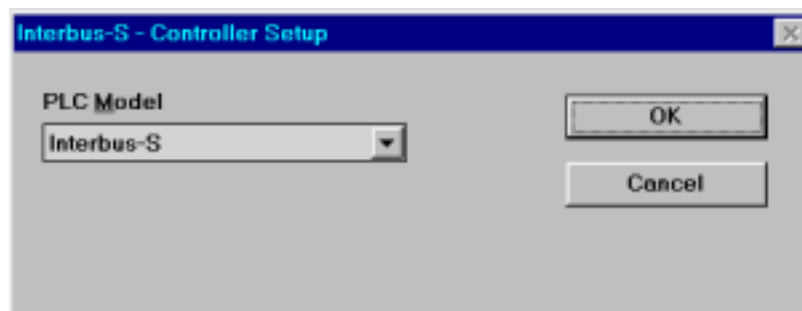

Figure 9 – Controller Setup
- 1) Select the option "Project/Change Communication Driver" and choose "Interbus-S". There is no need to enter additional parameters in the Controller Setup dialog box as shown in Figure 9.